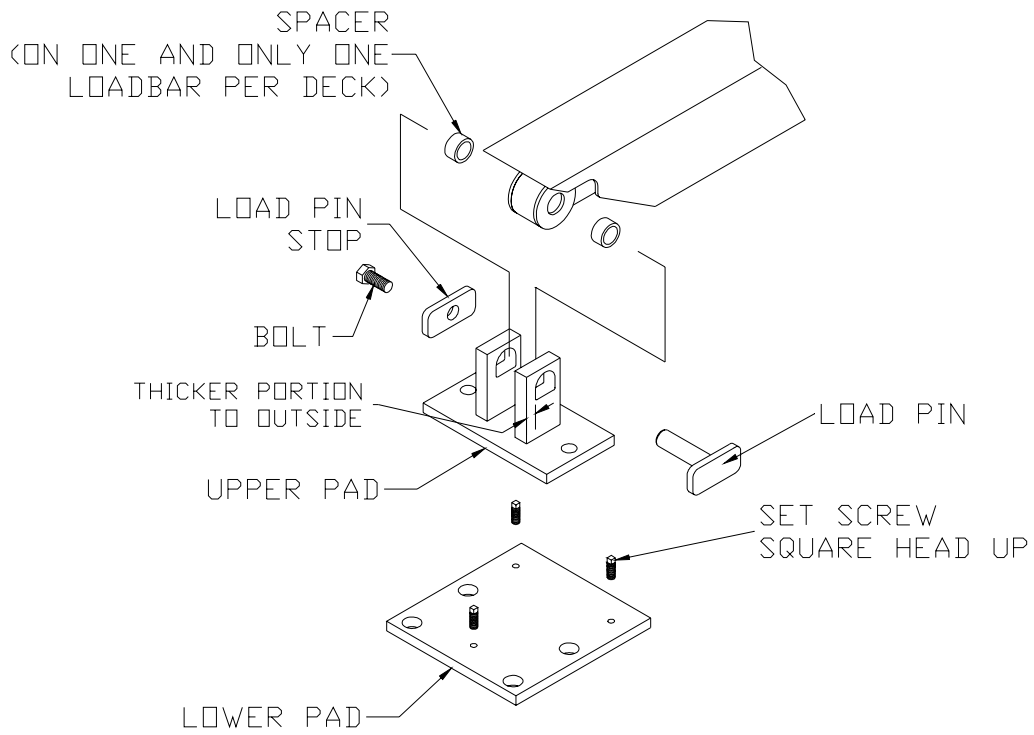

Figure 3 - Loadbar Assembly
3. Insert the load pin through the upper pad, spacers (assembled on only one loadbar per deck), bearing of the load cell, and the load pin stop (see Figure 3).